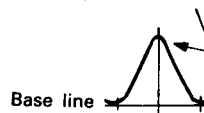

Fig. 14
4. Feed in a weak signal to TP2 from the genescoper. Adjust T101 for maximum gain and the waveform indicated in Fig. 14. If the center of the waveform cannot be lined up on the marker, adjust the right/left balance.